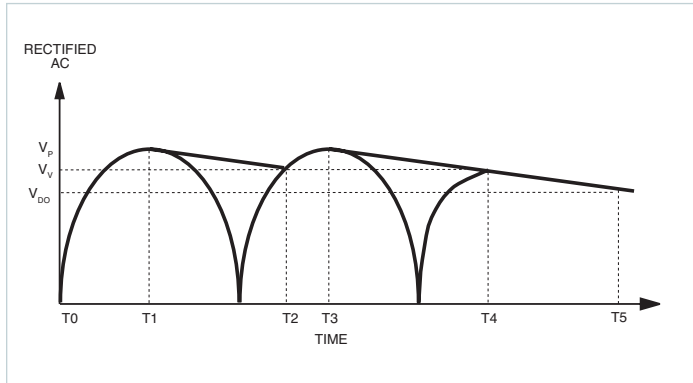

Figure 12.3 — AC waveforms
**Hold-up Time:** For maximum flexibility, an external capacitor (Figure 12.2, C1) is used to set the system's hold-up requirements. Hold-up time, for purposes of this application note, is defined as the time interval from loss of AC power to the time a DC-DC converter begins to drop out of regulation (Figure 12.3, T4 to T5). Hold-up time is a function of line voltage, hold-up capacitance, output load and that point on the AC waveform where the line drops out. For example, if the AC line fails just after the hold-up capacitors were recharged, hold-up time will be much greater (Figure 12.3, T3 to T5) than if the AC line fails just prior to another recharge (Figure 12.3, T4 to T5).